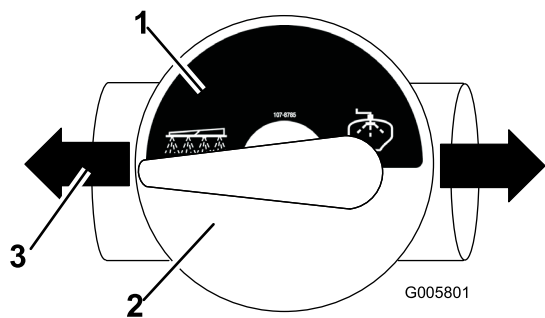

Figure 24
2. Install decal 107-8785 onto the valve face in the correct orientation (Figure 24). Make sure the decal aligns with the flow of the valve.